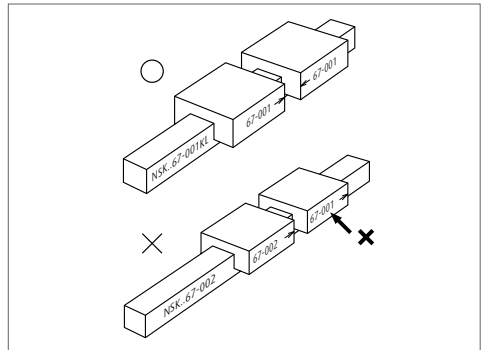

Fig. 28
- > In case that the slides had to be removed from the rail, confirm their serial numbers and the directions of arrows for re-assembly (**Fig. 28**).